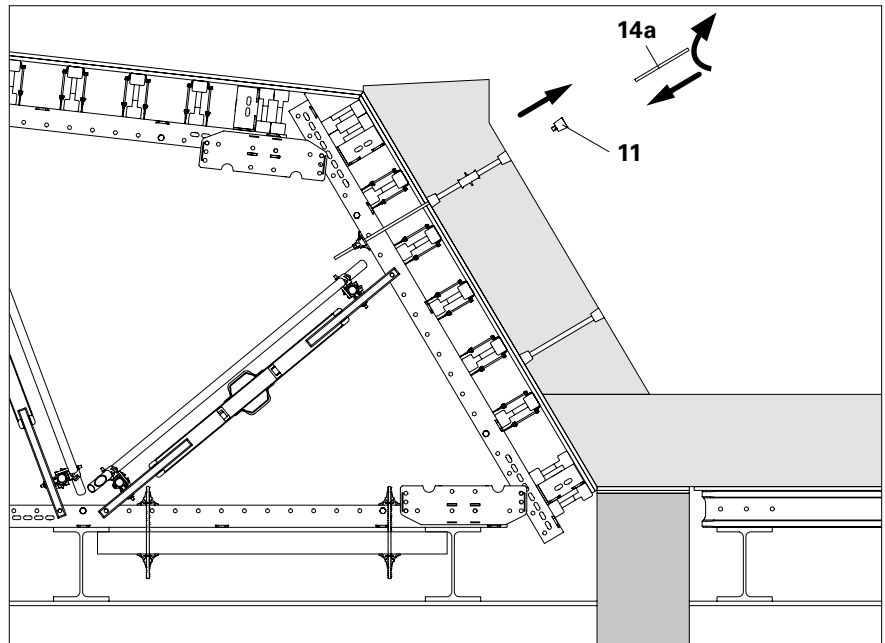

Fig. B1.02
2. Remove the Sealing Cone using the DK Cone Spanner (45). (Fig. B1.02)